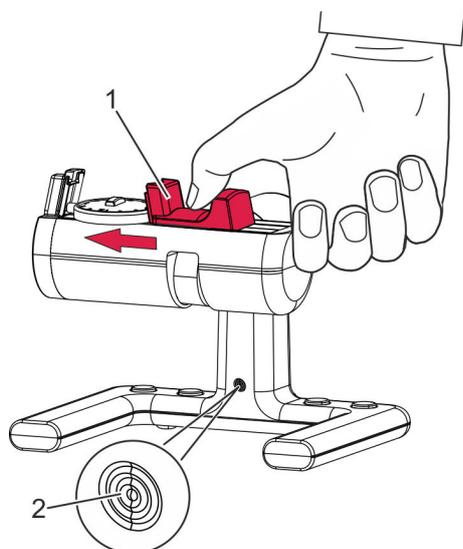

Fig. 11: Releasing the clamping jaw
3. Carefully guide the clamping jaw (Fig. 11/1) to the watch or the clockwork.
- The LED on the ChronoMaster (Fig. 11/2) flashes at the same frequency as the watch beats.